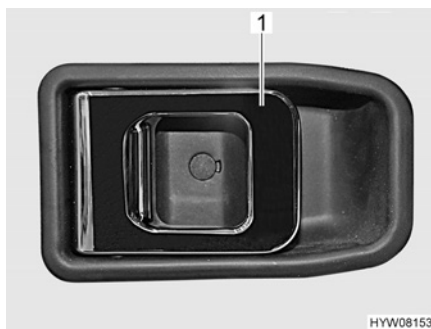

Fig. 19 Door lock (driver's door, inside)
- Opening:** ■ Pull on the handle (Fig. 19,1). The door lock is unlatched.
- Locking:** ■ Press handle (Fig. 19,1) into the handle shell. The door lock is locked.